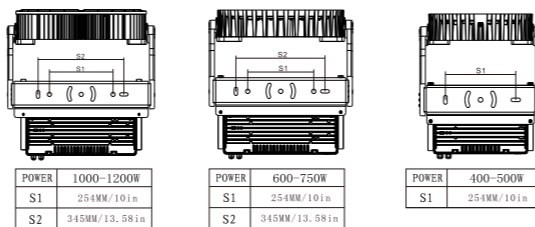

Figure 2
1. Mark the hole distance S1 or S2 shown in the product to be installed(Figure 2)